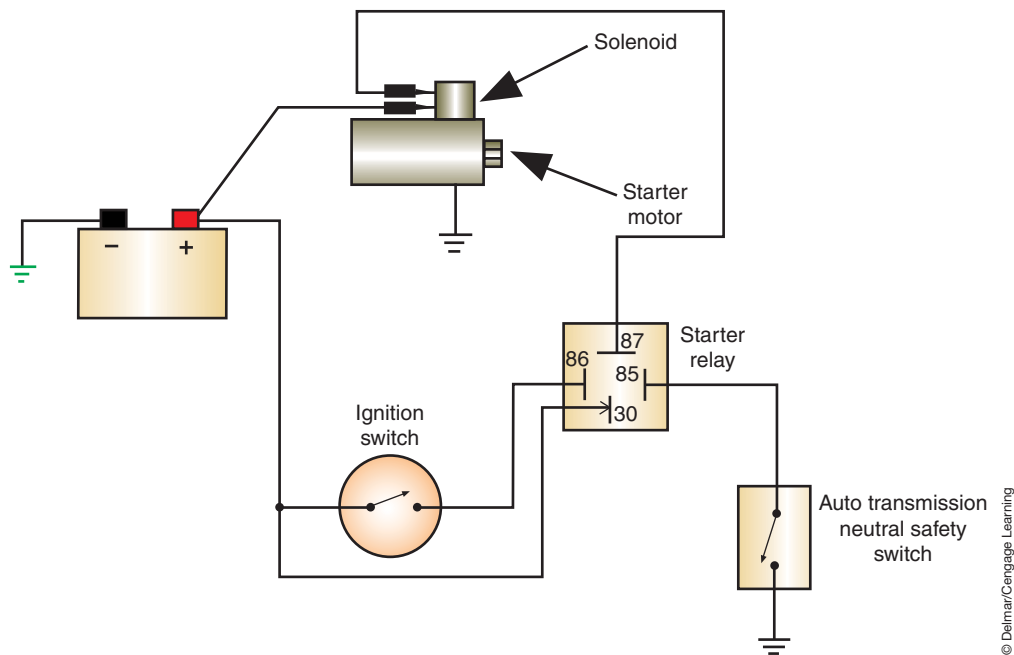

FIGURE 6-34 Starter circuit.
1. The starter circuit shown in Figure 6-34 has a fully charged battery. The starter relay and solenoid do not operate when the ignition switch is placed in the START position.
4. In the starter system shown in Figure 6-34, a voltmeter indicates battery voltage to the input of the neutral safety switch and battery voltage on the output terminal with the transmission in neutral and the ignition switch in the START position. This indicates: